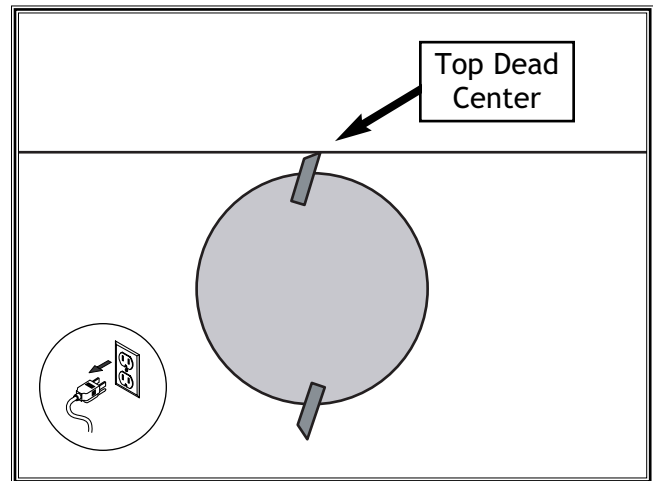

Figure 25. Blade is positioned at its highest position (Top Dead Center).
3. Rotate the cutterhead until one of the blades is at its highest position (Figure 25).